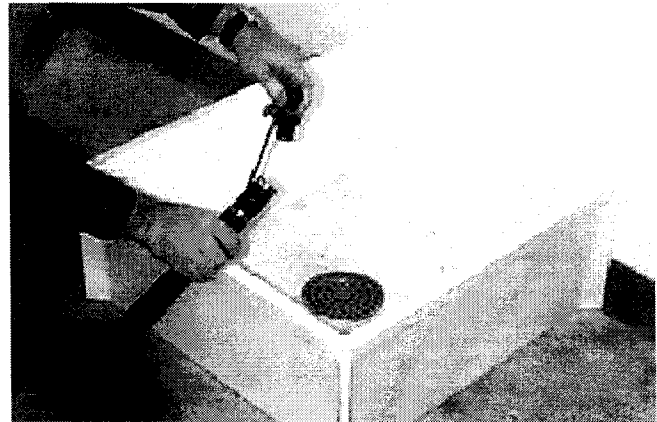

FIG. 12.
4. Replace drain hose knob and return to holder. (Figure 12.)